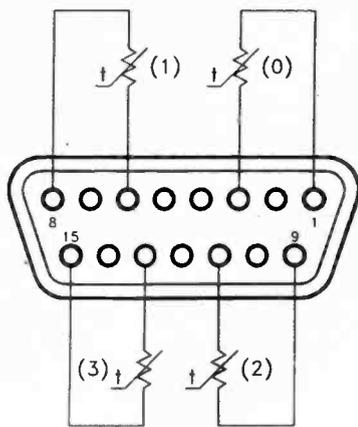

Fig. 1. Connecting thermistors or other simple sensors to the PC games port.
Connections of up to four thermistors or other simple sensors to a PC games port is shown in Fig. 1. The numbers in brackets are the games port channel numbers. The analogue inputs are read from GW BASIC using the STICK function. The STICK(0) function returns a value from channel 0, and it also results in readings being taken and stored for channels 1, 2, and 3. The stored